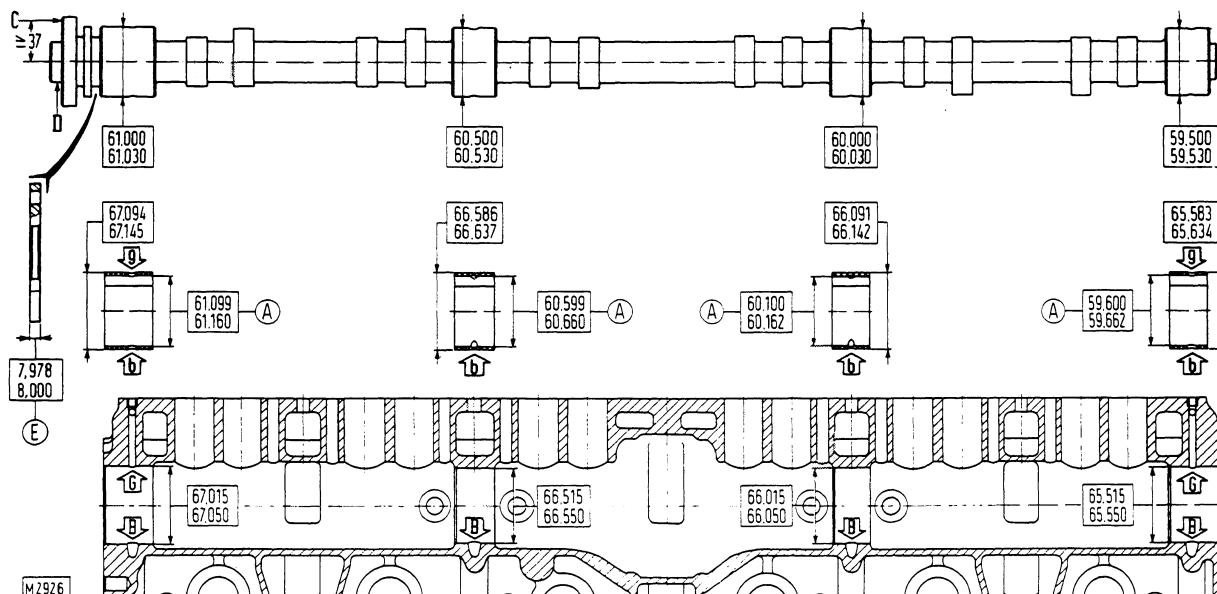

Fig. 19 - Camshaft, bearing and housing dimensions.
Measure clearance between camshaft bearings and journals using a suitable inside micrometer. For specified dimensions, see fig. 19 and section 11.
- Place the camshaft with two end journals over vee blocks and rest the stylus of a dial gauge on the flange face at approximately 37 mm or 1.5 in from the centerline (C , fig. 19).
Inspect bearings for signs of scratching, flaking, rust or overheating, replacing as necessary. Check that oil holes are not obstructed. Check bearing dimensions (see fig. 19).
- Position bearings so that retaining screws (4, fig. 18) are lined up with the associated passage holes, and that oil holes (b and g, fig. 19) line up with the corresponding oil supply holes (B and G) in the cylinder block.